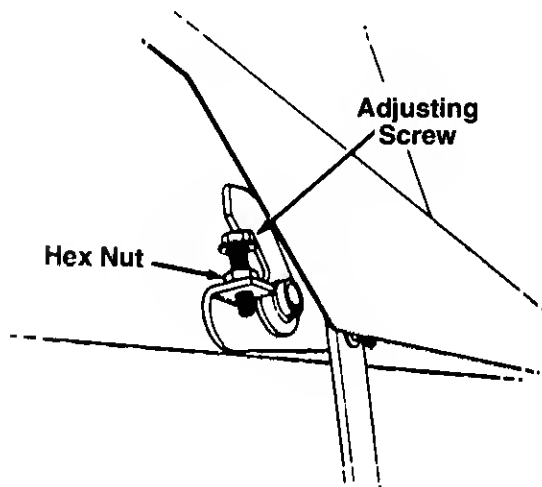

FIGURE 10.
3. If adjustment is needed, loosen the hex nut on the adjusting screw, located under the right side of the frame. See figure 10. Move the adjusting screw inward to lower the right side of the deck, or outward to raise the right side of the deck.